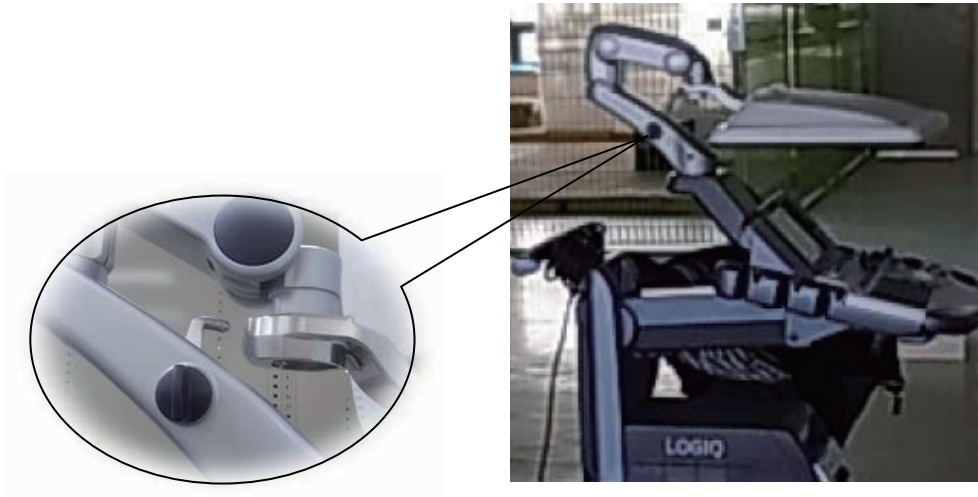

Figure 4-5 LCD ARM Lock
- 1.) Loosen LCD Arm LOCK (see: Figure 4-5).